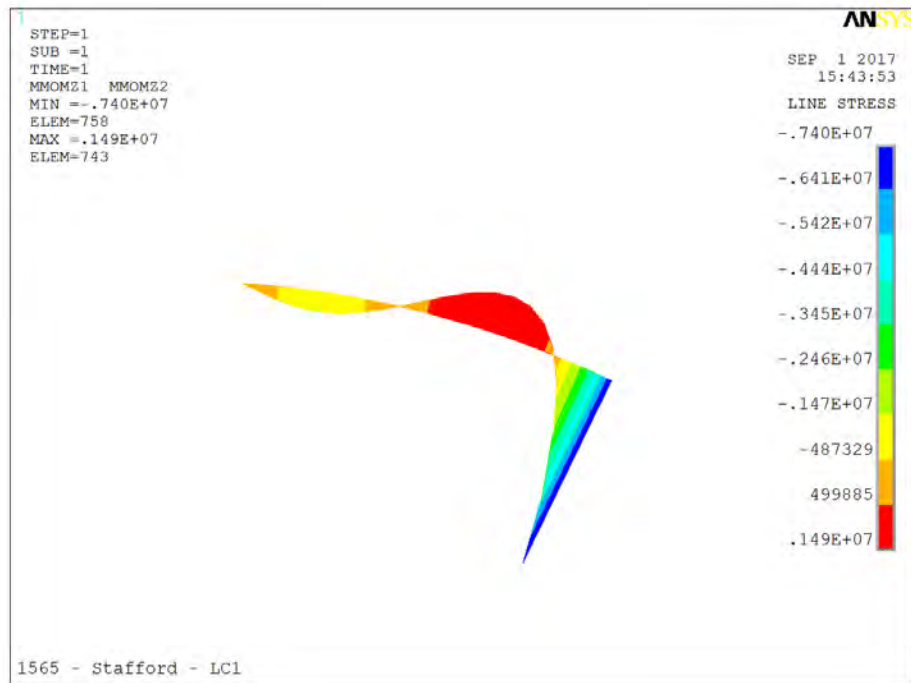

Fig. 1C
- **Fig. 1C - Dome moment (lbs-in/360)**